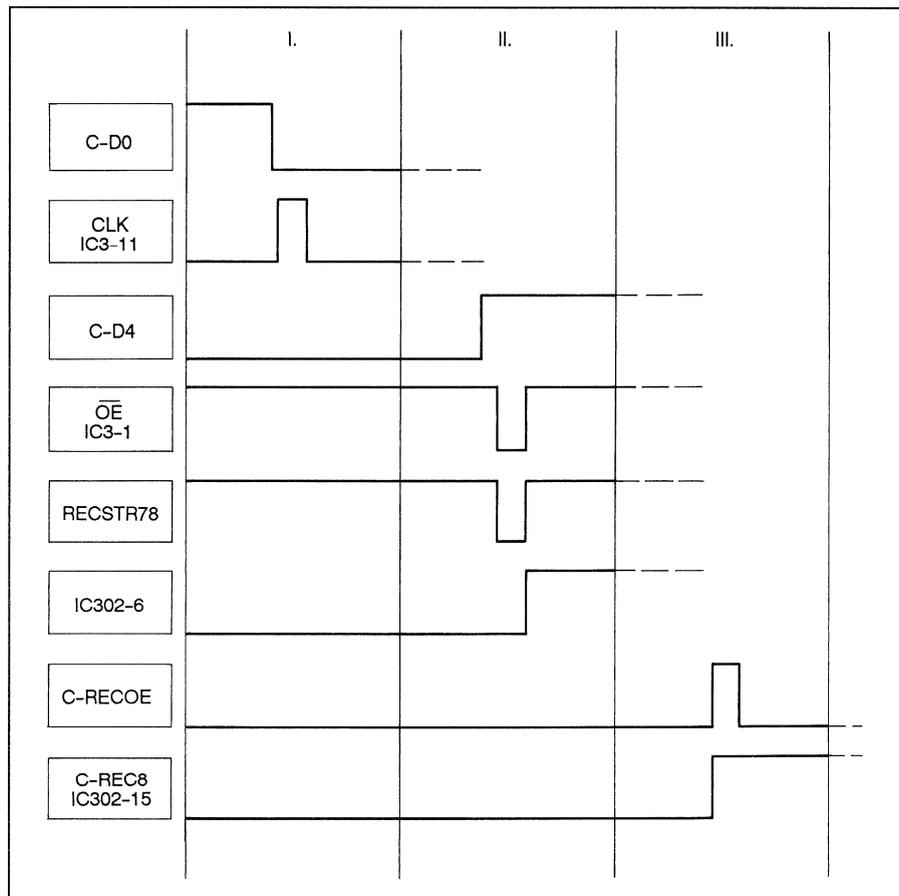

Fig. 1
1. Generating the C-REC8 signal (record relay channel 8), refer to Fig. 1 and 2